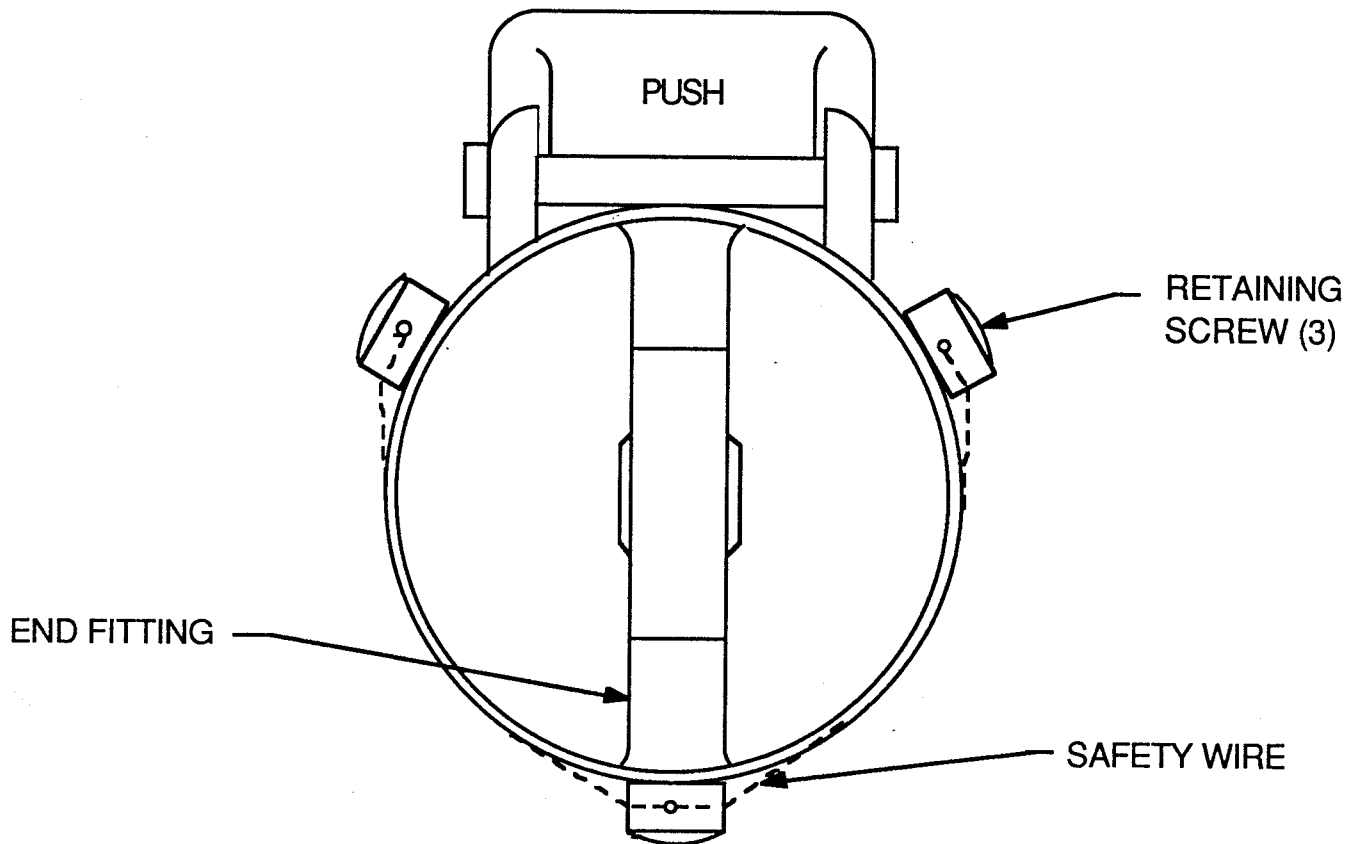

FIGURE 1 - EXISTING A3068-1 END CONFIGURATION
A. Disassembly (See Figure 1)
- (1) Cut safety wire on three end fitting retaining screws and remove safety wire from holes in screws.
- (2) Remove three screws from end fitting by turning counterclockwise.